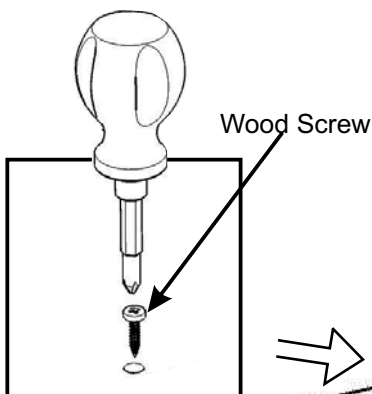

Figure 3
Attach Table Slides (F) to the unit using Head Cap Bolts, Spring Washers(Small) and Flat Washers(Small). Tighten Wood Screws (see Figure 3).
Disengage the locks by turning their handles counter-clockwise  $\frac{1}{4}$  turn (see Figure 3).
(Figure 3)